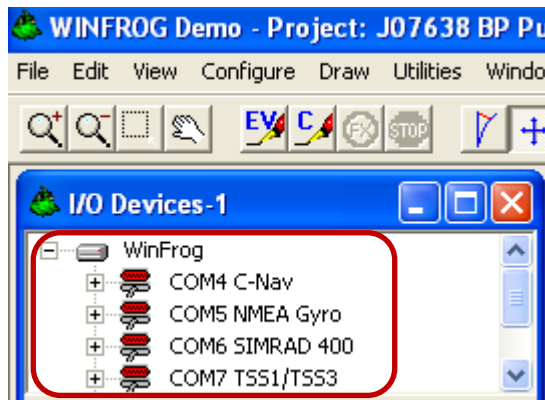

Figure 3
4.3 Verify Winfrog "I/O Devices are configured per Figure 3.